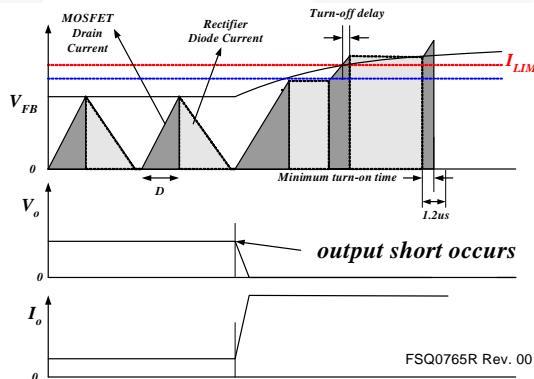

Figure 31. Output Short Waveforms
4.3 Output-Short Protection (OSP): If the output is shorted, steep current with extremely high di/dt can flow through the SenseFET during the LEB time. Such a steep current brings high voltage stress on drain of SenseFET when turned off. To protect the device from such an abnormal condition, OSP is included in the FSQ-series. It is comprised of detecting V_{FB} and SenseFET turn-on time. When the V_{FB} is higher than 2V and the SenseFET turn-on time is lower than 1.2 μ s, the FPS recognizes this condition as an abnormal error and shuts down PWM switching until V_{CC} reaches V_{start} again. An abnormal condition output short is shown in Figure 31.